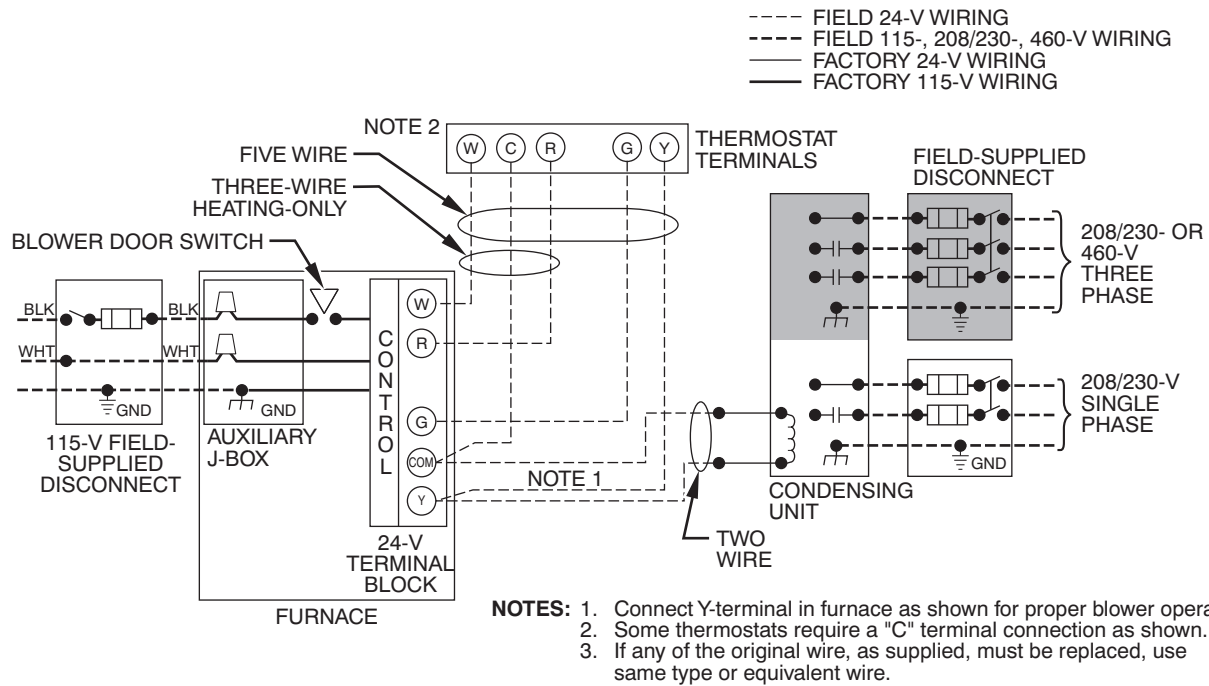
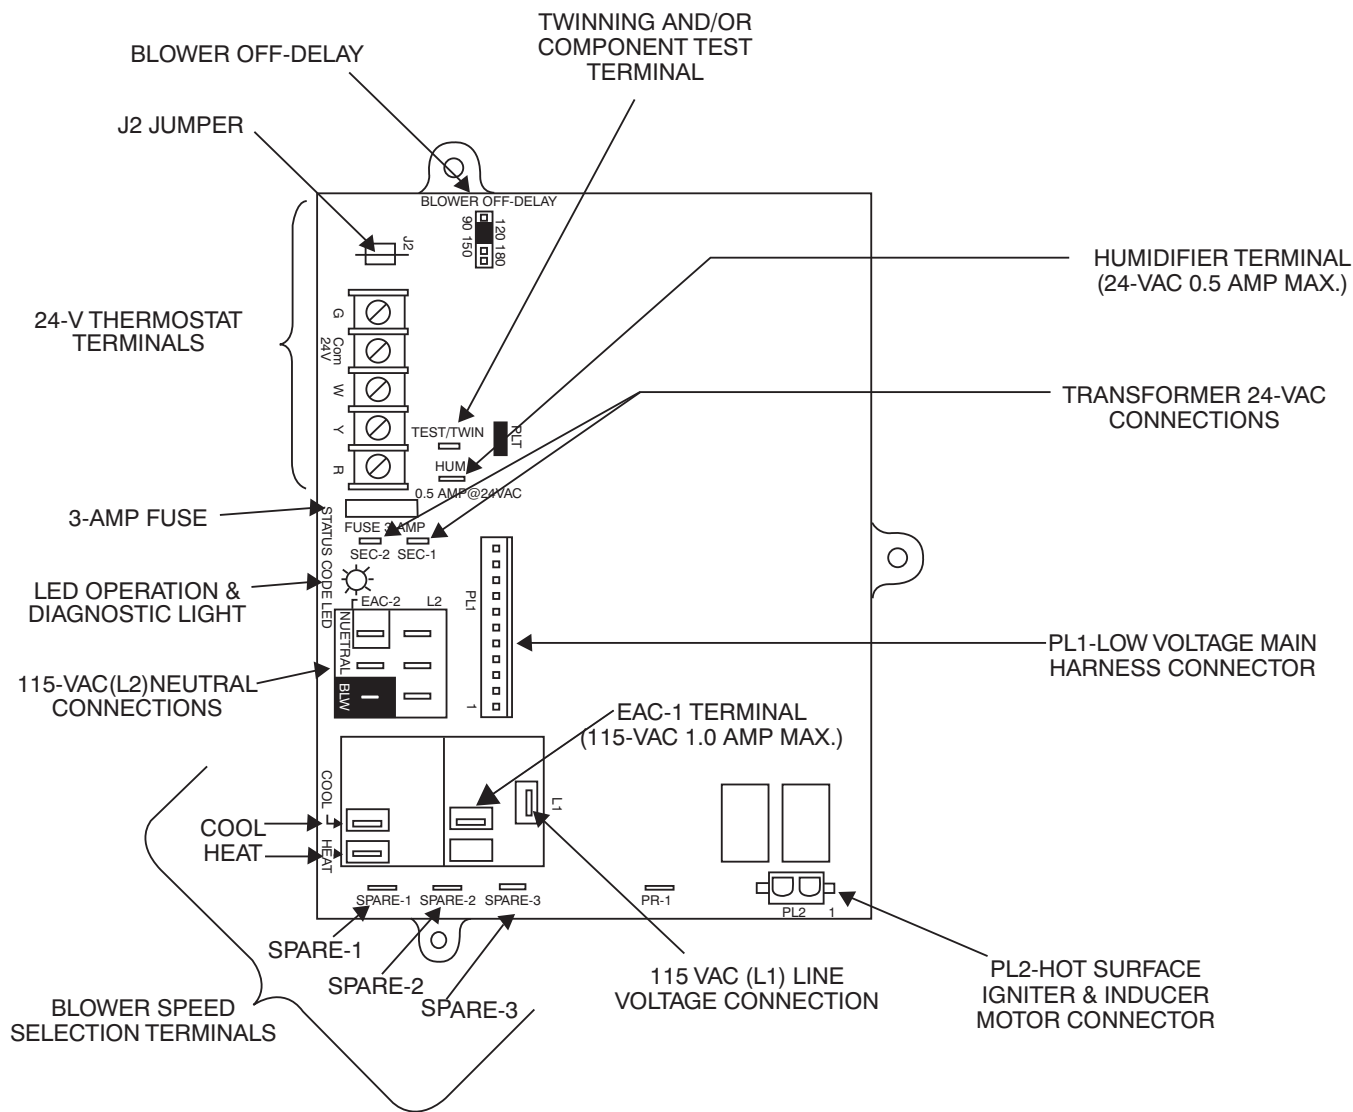

Fig. 35 - Typical Single-Stage Wiring Diagram
Fig. 36 - Example of Single Stage Furnace Control
See Fig. 35 for field wiring diagram showing typical field 115-v wiring. Check all factory and field electrical connections for tightness.
7. Connect field power and neutral leads to furnace power leads as shown in Fig. 35.
6. Connect power cord power and neutral leads to furnace power leads as shown in Fig. 35.
5. Connect field power and neutral leads to furnace power leads as shown in Fig. 35.
Make field 24-v connections at the 24-v terminal strip. See Fig. 36. Connect terminal Y as shown in Fig. 35 for proper cooling operation. Use only AWG No. 18, color-coded, copper thermostat wire.
The 24-v circuit contains an automotive-type, 3-amp. fuse located on the control. Any direct shorts during installation, service, or maintenance could cause this fuse to blow. If fuse replacement is required, use ONLY a 3-amp. fuse of identical size. See Fig. 36.